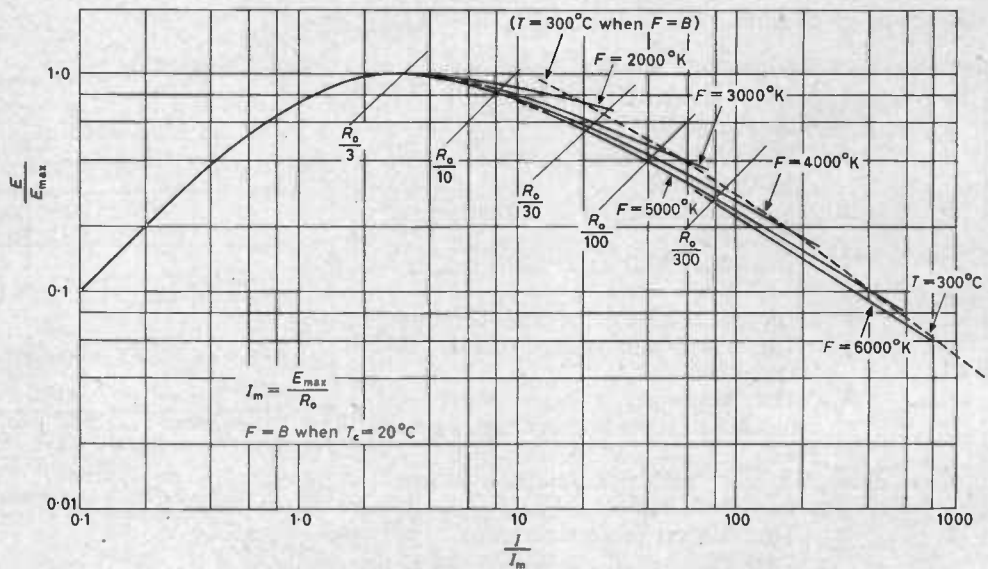

Fig. 3. Relations between the normalized voltage and the normalized current as a function of the parameter F
E/E_{\max} and I/I_m can be calculated for given values of B , T_a and ΔT from equations (22) and (25). They have been plotted graphically in Fig. 3 for an ambient temperature of 20°C. It is interesting to note that the current (I_{\max}) at maximum voltage is approximately equal to $3I_m$. Also contours can be plotted in Fig. 3 showing lines of equal mean thermistor temperature. Note, however, that these lines apply only for an ambient temperature of 20°C.
Fig. 3 is plotted in a different form, as described in Appendix C.)
Therefore, the effect of any change in T_a may be exactly replaced by the effect of a reciprocal change in B . The curves in Fig. 3 have therefore been plotted in terms of a parameter F where: